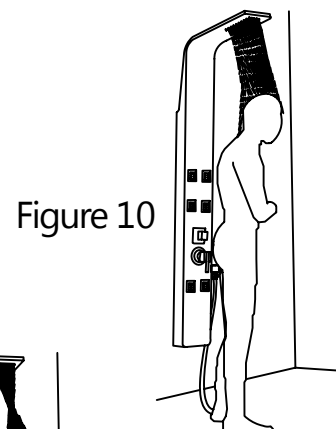

Figure 10
1. Top rain shower. (Figure 10)